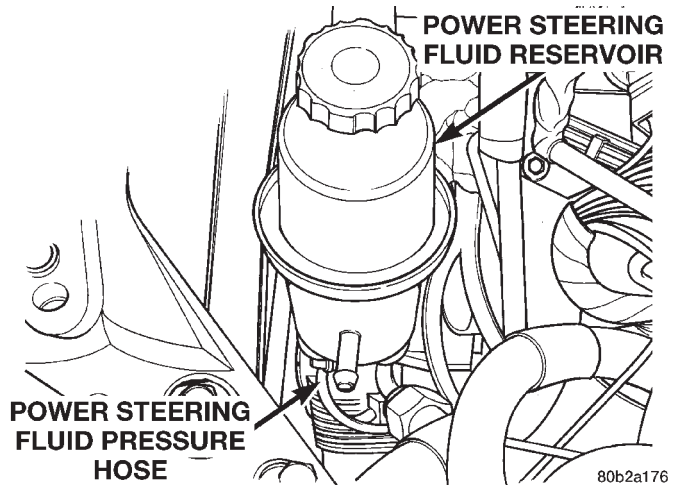

Fig. 5 Pressure Hose At Power Steering Pump
(4) Let power steering fluid drain from the power steering fluid reservoir and power steering pump.
(5) Install a cap on the open nipple of the power steering fluid reservoir to prevent power steering fluid from spilling when removing the power steering pump.
(6) Remove the power steering fluid pressure hose (Fig. 5) from the pressure fitting on the power steering pump.
(6) Install the power steering pressure hose in the pressure fitting of the power steering pump (Fig. 5). Tighten the power steering fluid pressure hose tube nut to a torque of 47 N·m (35 ft. lbs.).
(7) Install the power steering fluid return hose on the power steering fluid reservoir. **When installing the hose clamp on the power steering fluid return hose be sure the clamp is installed past the upset bead on the nipple of the power steering fluid reservoir.**
(8) Connect the battery ground cable onto the ground stud located on the strut tower.